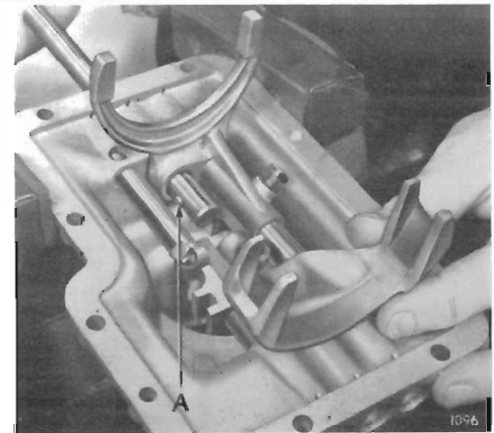

Fig. 53.
Before the shaft (23) has been pushed to its neutral position, insert the two interlock balls (50) and (26) into the transverse bore connecting the shaft bores at the rear of the casting as shown on Fig. 53 then push the shaft further into the cover until its selector plunger registers with the middle indent, and the interlock balls and plunger are retained by the shafts.